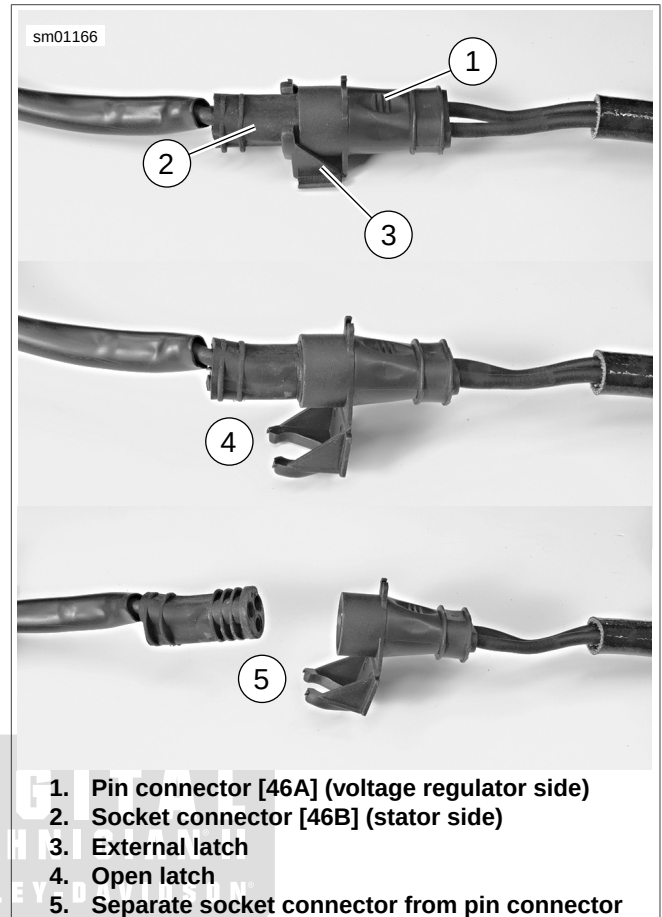

Figure 6-2. Separating Connector Halves (Stator Connector Shown)
2. See Figure 6-2. Unplug stator connector [46]. Lift external latch (3) on pin housing and separate connector halves (5).